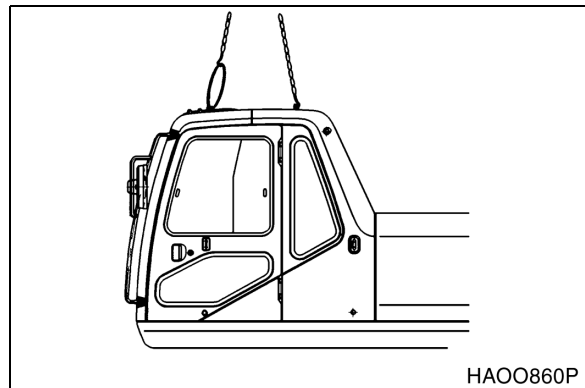

Figure 7
27. Using a suitable lifting device, attach slings to four lift points on top of cab (Figure 7).
1. Using a suitable lifting device, attach slings to four lift points on top of cab (Figure 7).